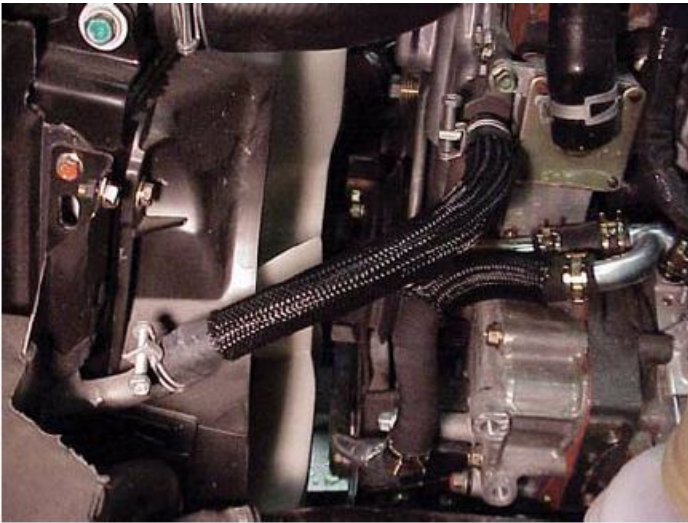

Figure 2
- e. Remove two front cover bolts, install new water pipe (kit item L)(photo 3) with clips to new hoses in step 4a and 4c, and then mount the pipe to the engine cover with new bolts (kit item S qty 2). Position the new clips/clamps away from fan. Tighten threaded clamps as shown in Fig 2. Rotate the fan by hand and visually inspect for adequate clearance.
- f. Engine left hand side remove the existing engine to heater pipe hose and install new hose (kit item U) with clamps (kit item R qty 2)(photo 5). Tighten threaded clamps as shown in Fig 2.